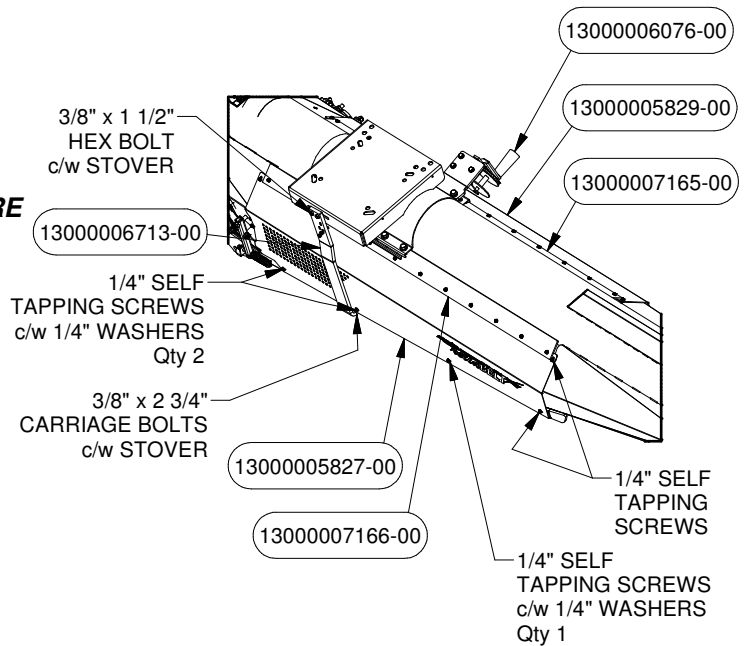
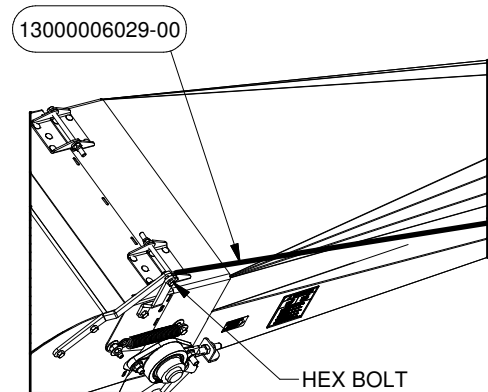

FIGURE 34
FIGURE 35
3. Place the Covers PN# 5827 and PN# 5829 with the Rubbers PN# 7165 and PN# 7166 to the Intake using Self Tapping Screws and washers as shown in Figure 34. Fasteners can be found in Bolt Bag PN# 6068.
4. Wrap the Cable PN# 6029 to the Winch PN# 6076 as shown in Figure 34. Loop the other end to the Bolt located at the Arms and clamp it using Cable Clamps PN# 32014109 as shown in Figure 35. Cable can be found in a Kit PN# 6772/6611/6613.